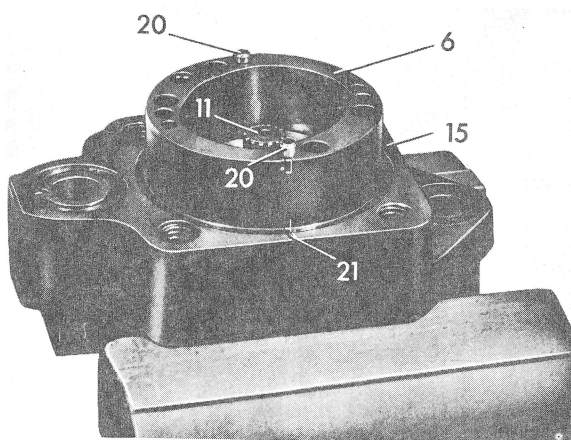

Fig. 5
5 Place cam ring (6) on fitted pins (20) in such a manner that the respective markings (21) on housing cover (15) and on cam ring are in alignment (Fig. 5).
Note: When a new cam ring is installed, position in such a manner **that the pressure oil holes (b) are accurately above the recesses (d) in housing cover** (Fig. 5 and 7).